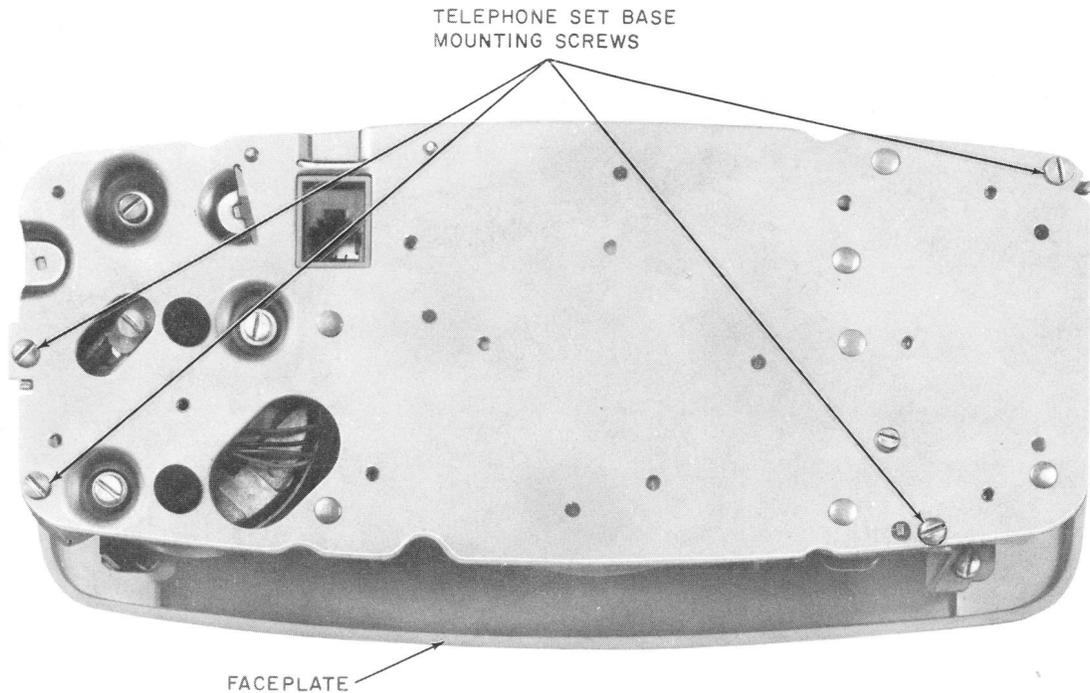

Fig. 4—Removing Telephone Set Base From Faceplate
(3) Remove the four screws on the bottom of the telephone set base and withdraw the base from the faceplate and attached brackets (Fig. 4).
(4) After removing telephone company-owned components, reassemble housing base to the two brackets mounted on the faceplate.